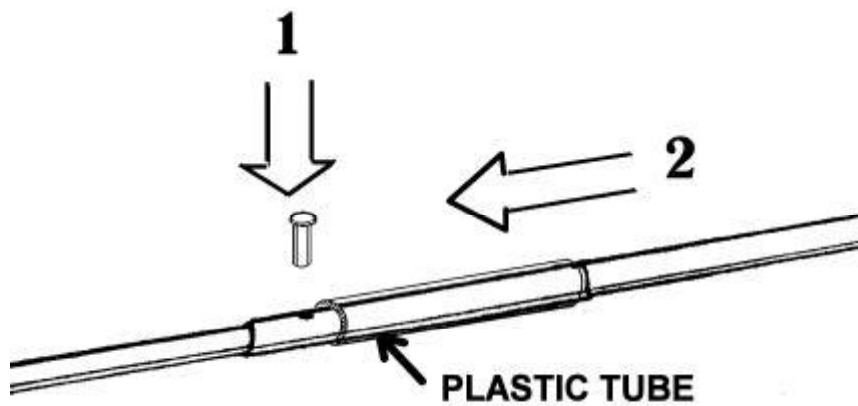

Fig. 21
2.1.23. Remove the battens from the bag. Battens No.1 and No.2 are dismountable for a transportation in a short package. Assemble them using pins provided and secure with plastic tube (Fig. 21).